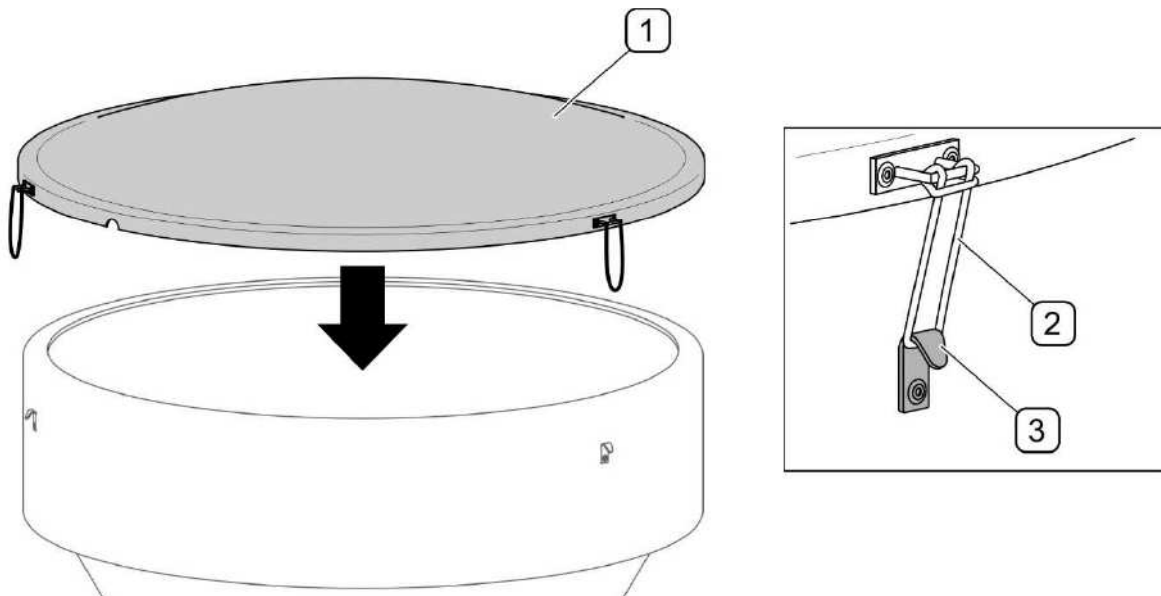

FIG. 4.13 Tank cover (optional equipment)
Optionally, the machine can be equipped with tank cover (1) with rubber tensioners (2) used for securing to hooks (3) on the machine tank (FIG. 4.13).